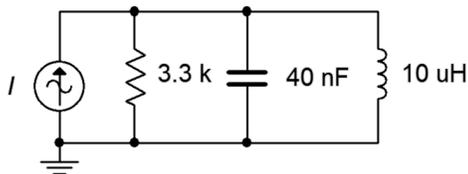

Figure 8.12
26. Given the circuit shown in Figure 8.12, determine the resonant frequency, system  $Q$  and bandwidth. If the source is 10 mA, determine the resistor voltage and the three branch currents at resonance. Assume the inductor's  $Q$  is given by curve B.